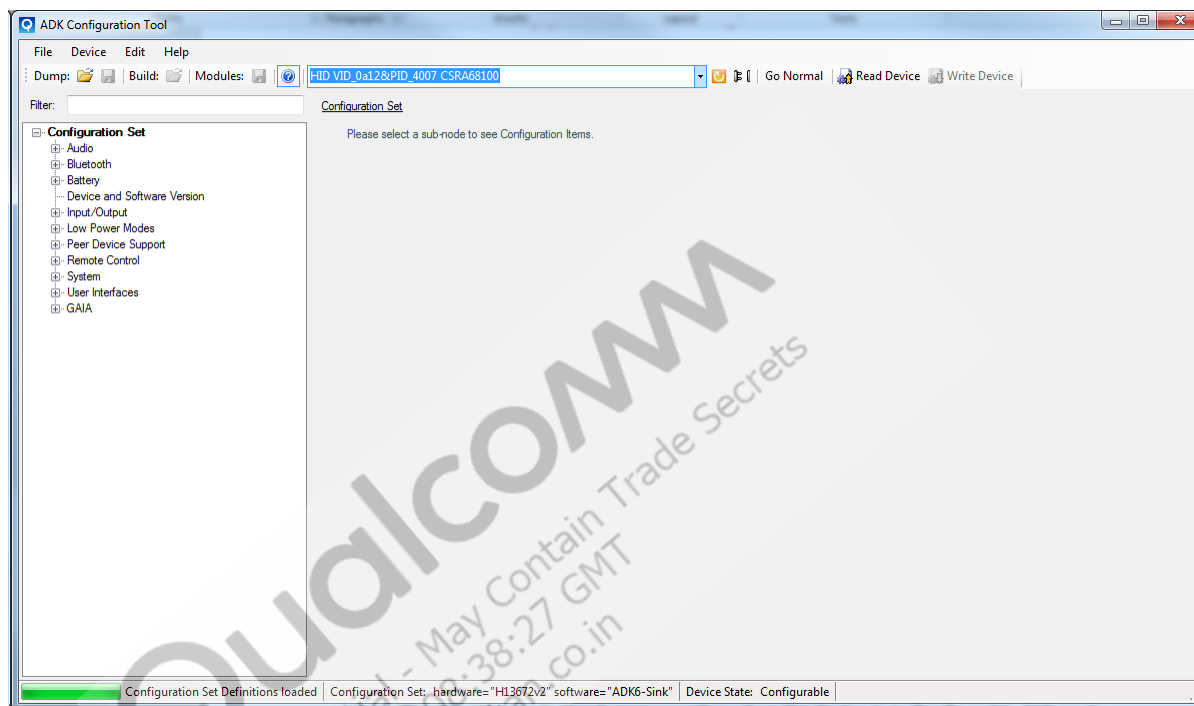

Figure 3-5 The Configuration Tool with AHI Configurable mode
- (1) Configuration Item values can only be read, modified or written when the device is operating in the Configurable AHI Mode.
- (2) The button caption changes to **WORKING** during the transition. When the transition is complete, in Configurable AHI mode the button caption changes to **Go Normal**, see Figure 3-5.
Figure 3-5 shows an example of the **Write Device** button grayed-out, this is because the device Configuration Item values are not yet loaded.